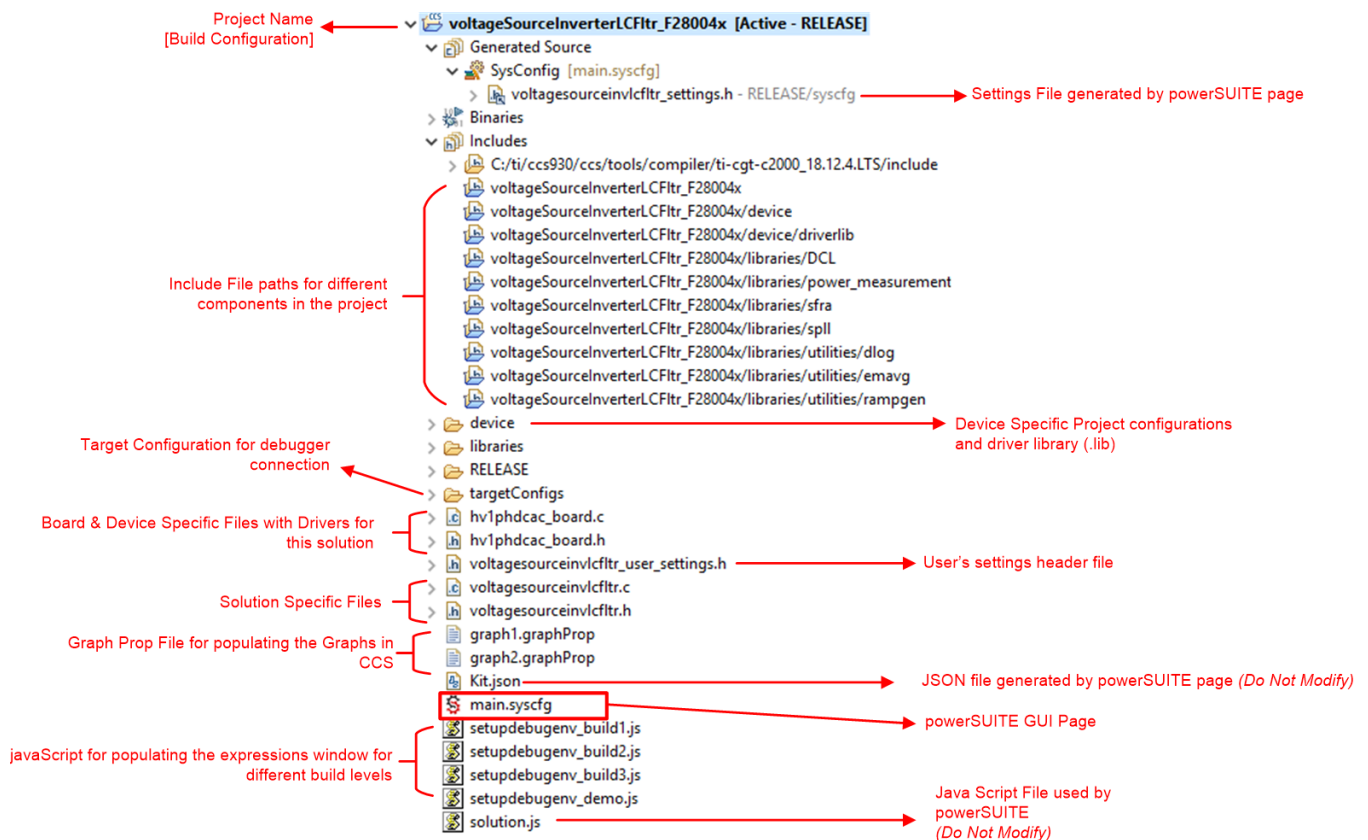

Figure 20. Project Explorer View of the Solution Project
Once the project is imported, the project explorer appears inside CCS, as shown in Figure 20.
NOTE: Figure 20 shows the project for TMS320F2837x; however, if a different device is chosen from the powerSUITE page, the structure will be similar.
The *Kit.json* and *solution.js* files are used internally by powerSUITE and must also not be modified by the user. Any changes to these files result in project not functioning properly. Figure 20 shows the project explorer view of the solution project.
3. In the *Project Explorer*, make sure the correct target configuration file is set as *Active*, as shown in Figure 20.